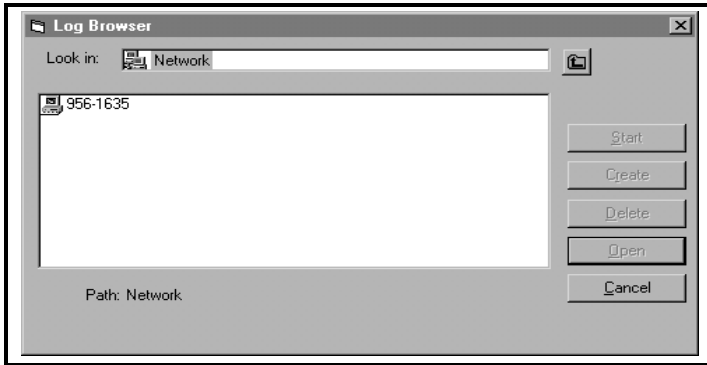

Figure 6-13: Computer Selection
1. Open the “*Output*” menu (see Figure 6-1 on page 6-2), and click on “*Logging*” and then on the “*Log Browser*” option. The dialog box shown in Figure 6-13 below appears.